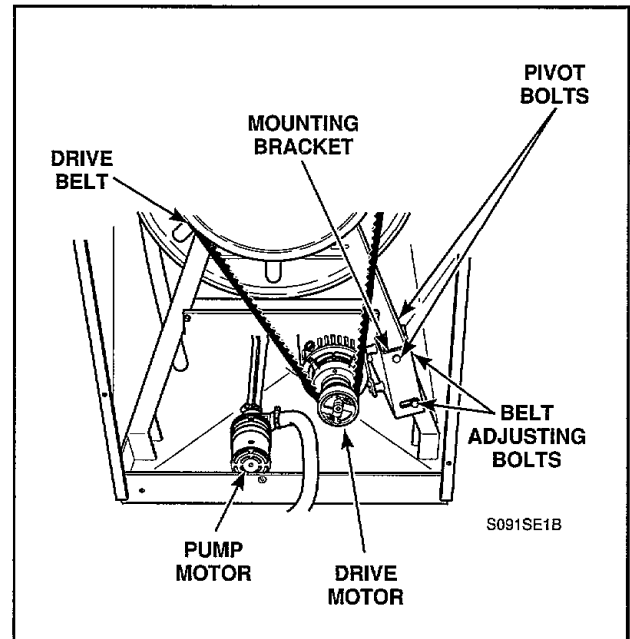

Figure 48
- Loosen four bolts holding motor mounting bracket to rear tub support, *Figure 48*.
- After proper belt tension has been obtained, tighten belt adjusting bolts firmly, then tighten pivot bolts, *Figure 48*.